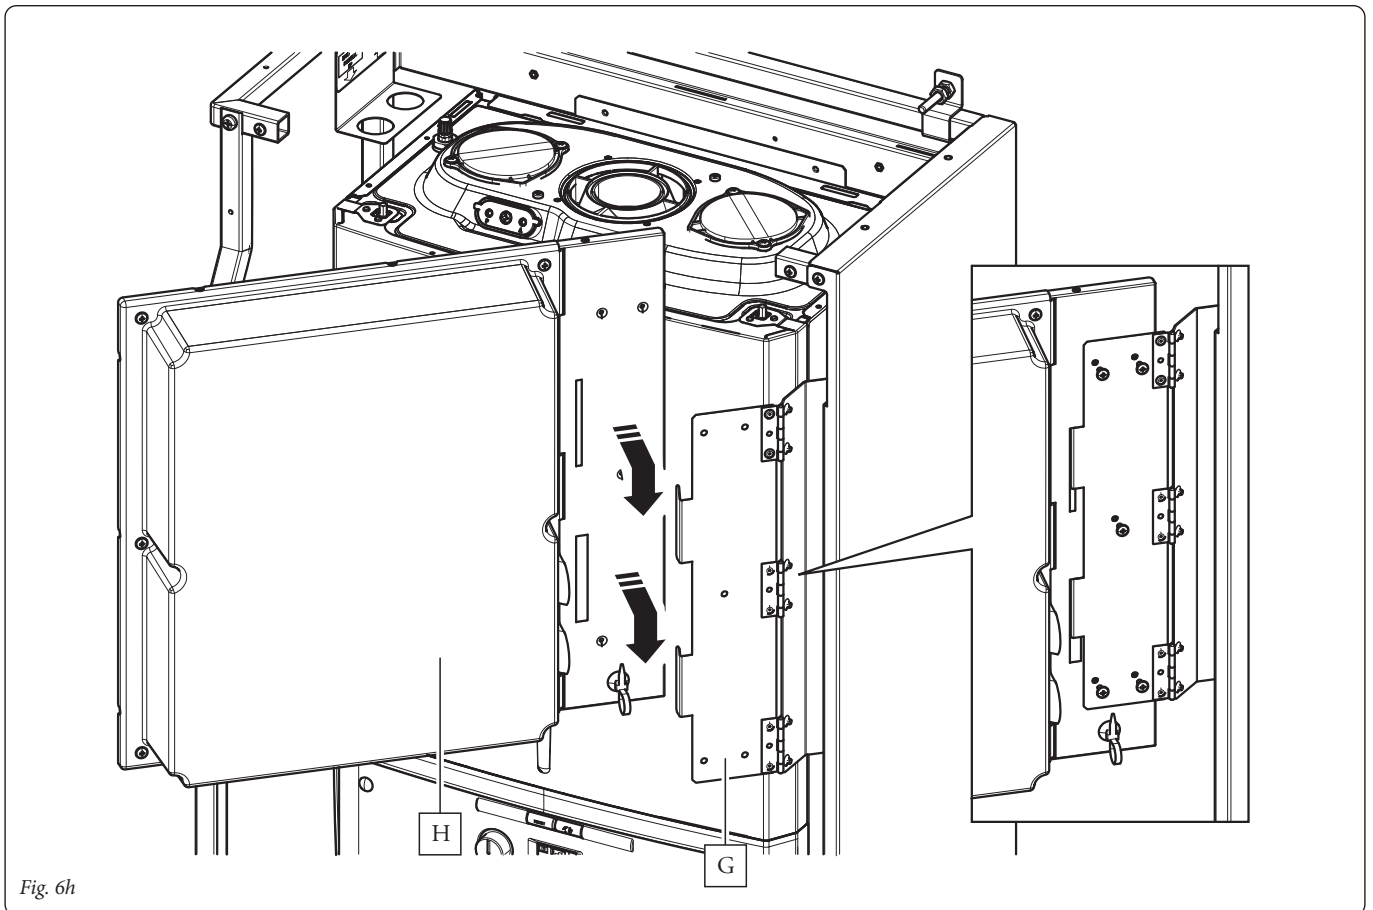

Fig. 6h
- Fit the electrical panel (H) on the bracket (G) as shown in Fig. 6h. Once completed the installation, fix everything with the screws supplied (Fig. 6h).